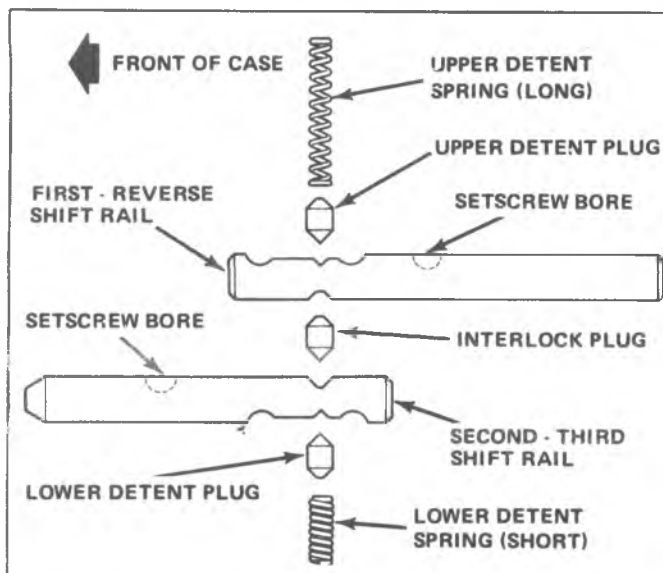

Fig. 7B-21B—Installation Sequence - Detent Plugs and Springs
7. Align bore in countergear with countershaft and front thrust washer, then start countershaft into countergear. Before countershaft is completely installed make sure that roll pin hole in countershaft is aligned with hole in case. When holes are aligned, tap countershaft into place, remove tool J-25232 (Fig. 7B-5B).